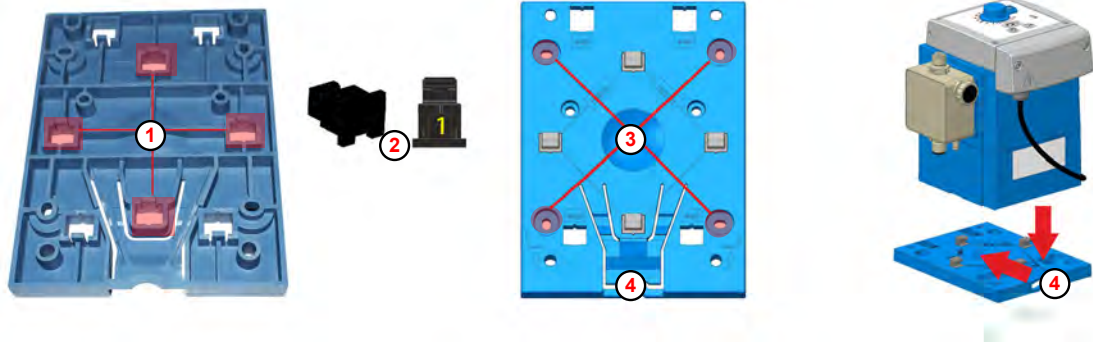

Fig. 14: Preparations for table mounting
*On the underside of the mounting plate, the boreholes for countertop-mounting (Fig. 14 , ①) are marked with a 1.